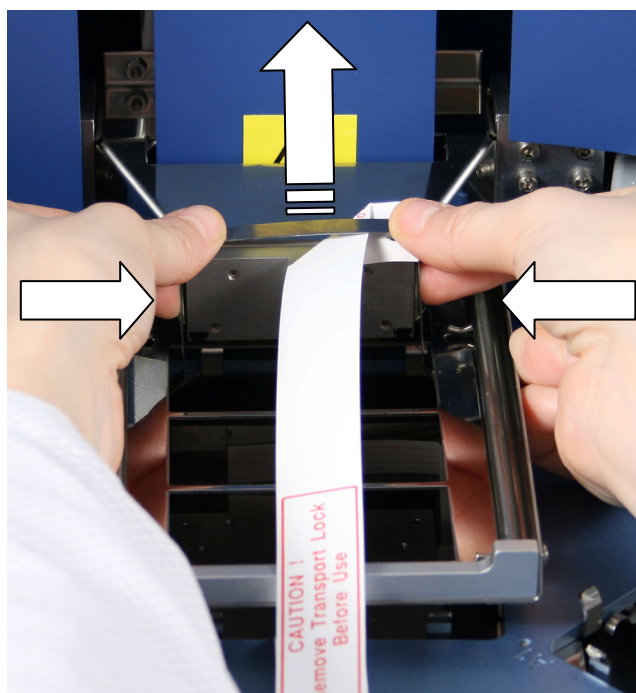

Fig. 5.2 Removing the transport lock of the tip comb holder (A)
1. To remove the transport lock of the tip comb holder, take firmly hold of the lock and press tightly on both sides of the lock according to Fig. 5.2 so that the lock ends are released. Keep hold of the tip comb holder and lock simultaneously and start gradually lifting the holder.